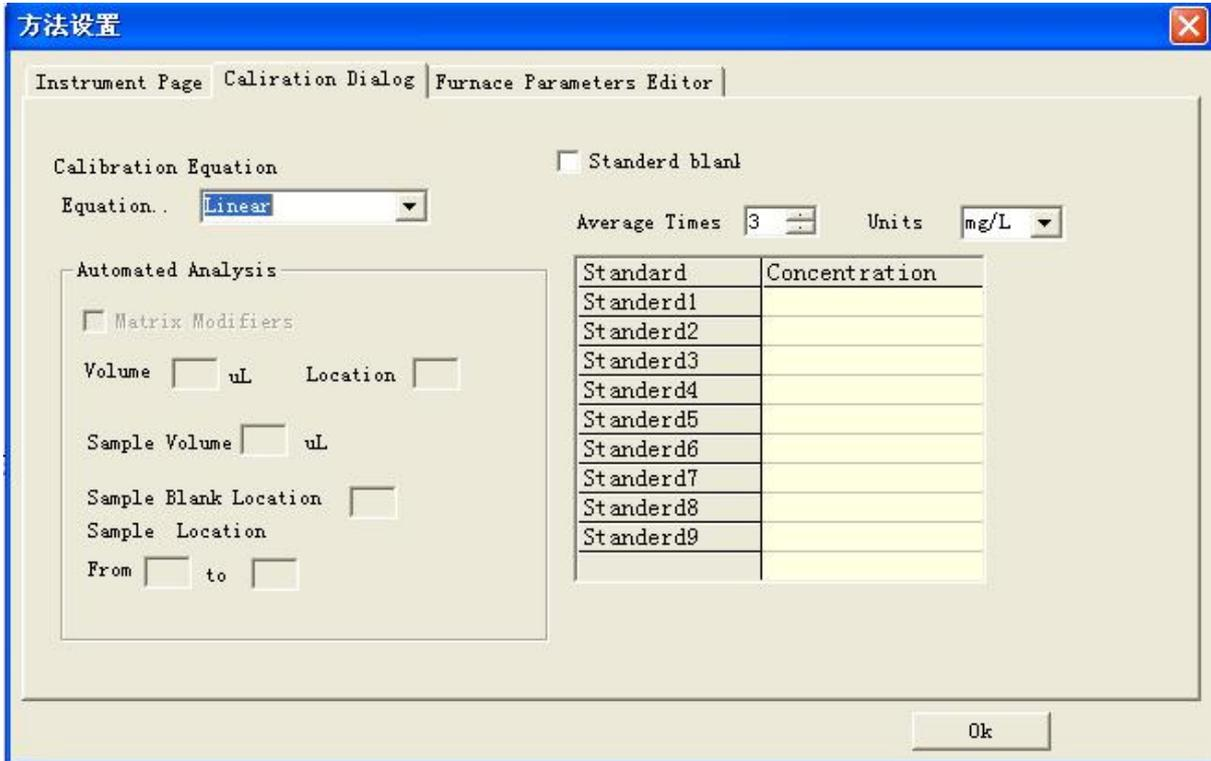

Figure 5-31
4. Press 【OK】 ,open the "Calibration Dialog" window. figure 5-31